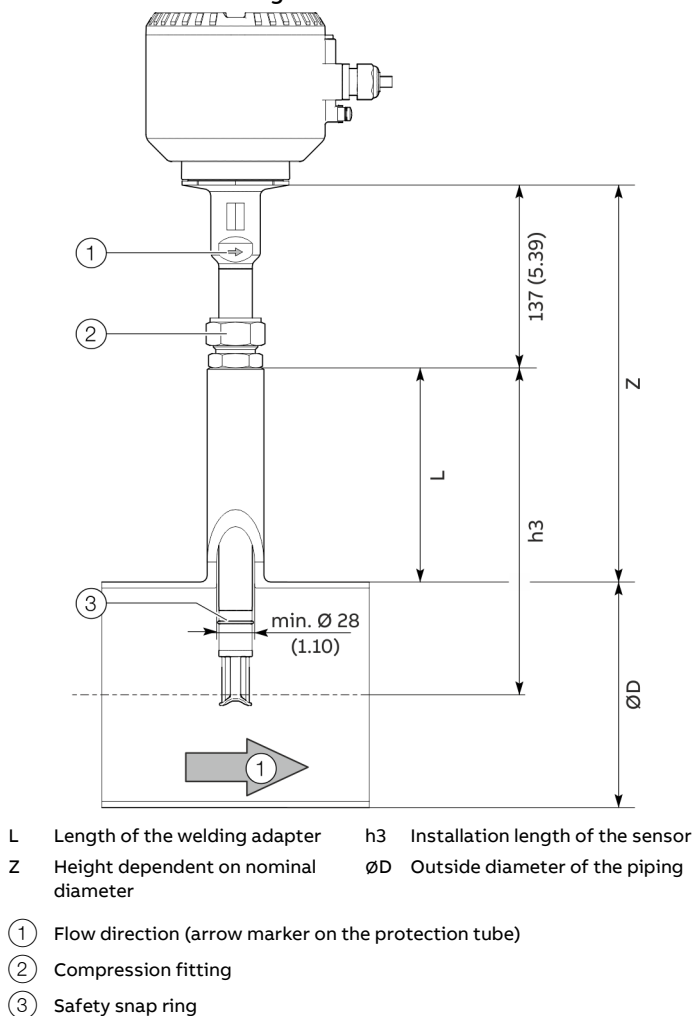

Figure 20: Calculating mounting dimensions
3. Move the sensor to the correct height for the calculated 'Z' dimension (see Figure 20) and secure the compression fitting against shifting by tightening the union nut by hand.